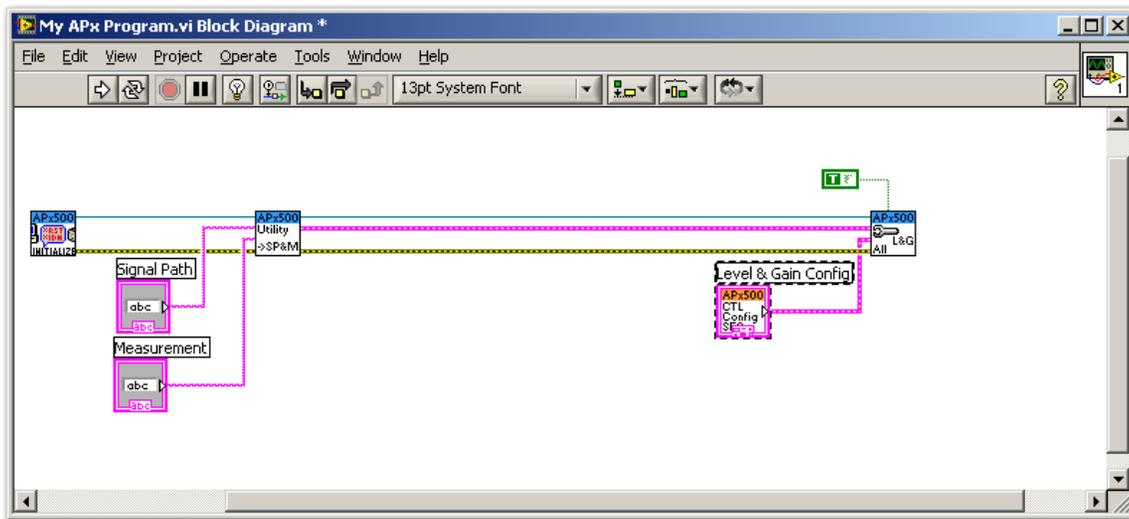

Figure 34
1. In the *My APx Program VI*, delete the *Perform Measurement VI*, the *Simple Error Handler VI* and the *Measurement Complete indicator*. These will be added again later. Next, add white space to the diagram as shown in Figure 34 (e.g., using Ctrl-drag with the mouse).